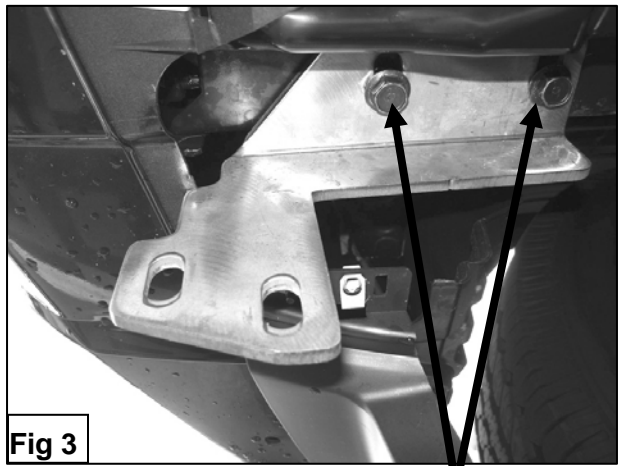

Fig 3
- Locate the passenger side Mounting Bracket and partially hang it from factory threaded holes on the frame rail using the included (2) 12-1.25 x 35mm Hex Head Bolts (fine thread), (2) 12mm Lock Washers, and (2) 12mm Flat Washers (**Figure 3**). Repeat this step for driver side.